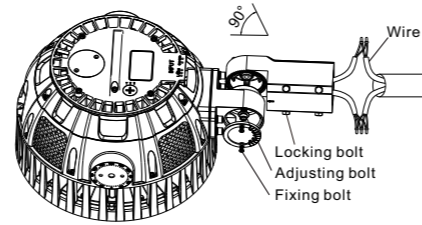

Figure 14
1. Loosen the 4 locking bolts on the slip fitter, connect the wire correctly and put the wire into pole. Then fasten the locking bolts between slip fitter and the pole. (Figure 14)
Notice: Adjustable angle is 0-90° (Figure 14).